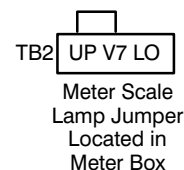

Figure 3. Generator Connections
- Assemble bus assembly mounting brackets (275457 & 275458) to junction box as shown in Figure 3.
- Route generator leads through current transformers for connection to bus bars as shown in Figure 3, according to system voltage specified in plans. Connect generator leads to bus bars as shown in Figures 2 and 3.